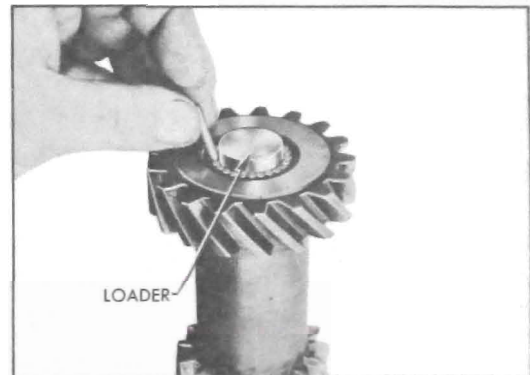

Figure 4-22—Installing Counter Gear Bearings with Loader
(7) *Counter Gear Bearings, Thrust Washer and Shaft.* Use Bearing Loader J-1001 when installing spacer, washer, and bearings in counter gear. See figure 4-22. Pack bearing rollers in white vaseline to hold them in place and make certain that all rollers are installed (26 in each bearing). Leave loader in gear until it is pushed out by the counter gear shaft during installation.